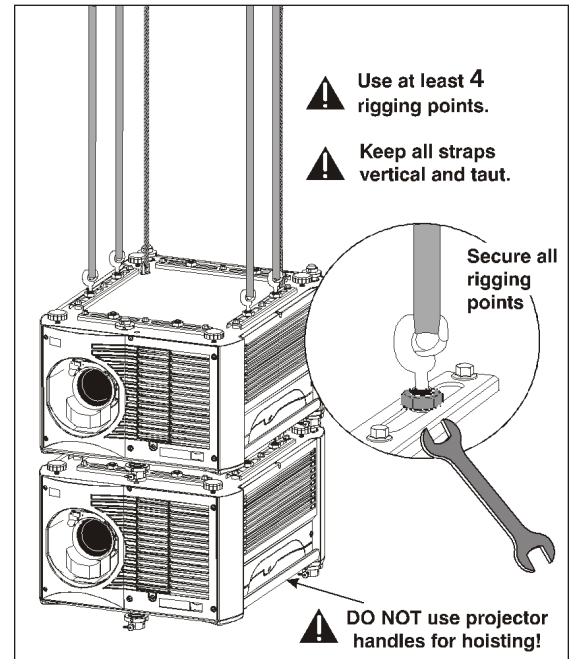

**Figure 2-15 Attach Safety Cables**
Attach a safety cable to each of the 2 eyebolts mounted on the bottom of the projector. See Figure 2-15. **NOTE:** Add eyebolts (2) if non-inverted.